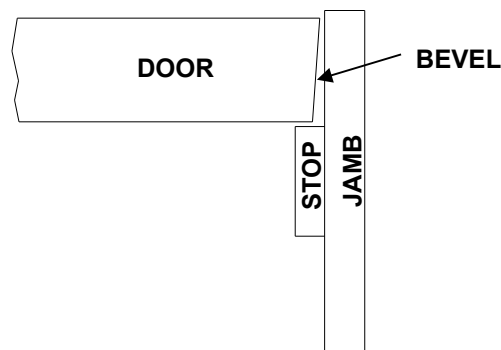

Figure 2
4. If your existing door has a bevel, the same should be made on your new door, as shown in Figure 2. Most doors are beveled approximately 3° to 5° to prohibit door from rubbing or sticking in jamb when closing.